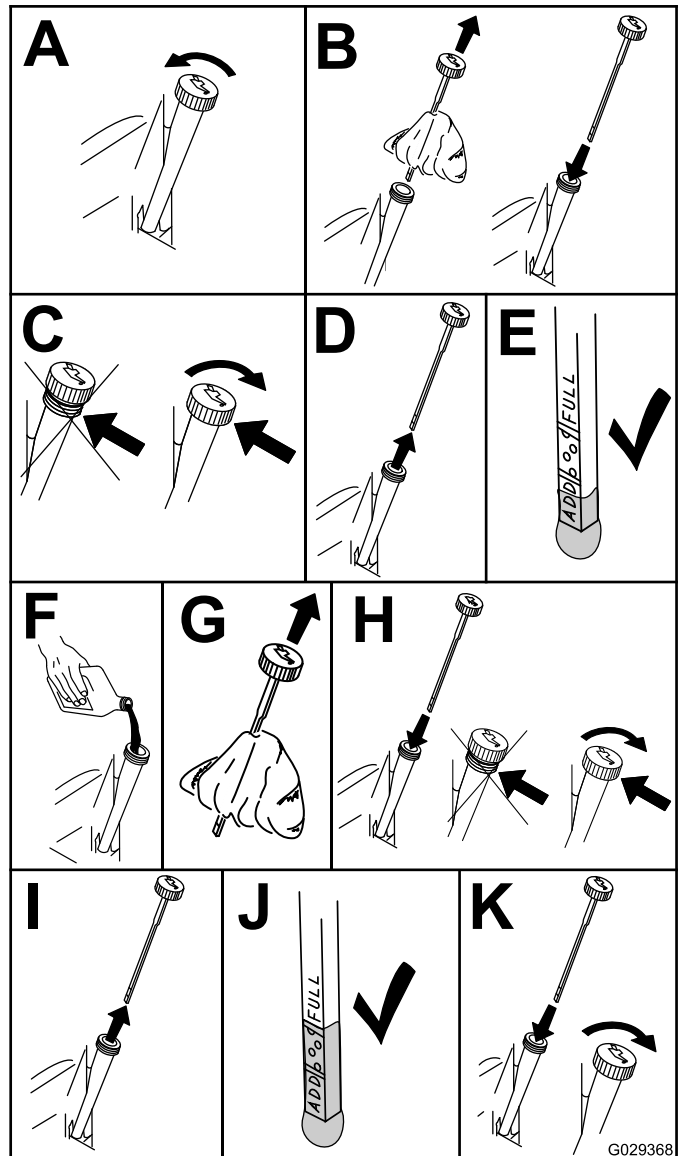

Figure 19
2. Check the engine-oil level (Figure 19).